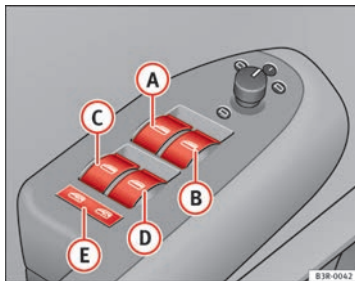

Fig. 80 Detail of the driver door: Controls
- A** Switch ⇒ Fig. 80 for the driver door window
The safety switch ⇒ Fig. 80 (E) can deactivate the rear door switches. The windows can only be operated from the rear when the safety switch is pressed in.